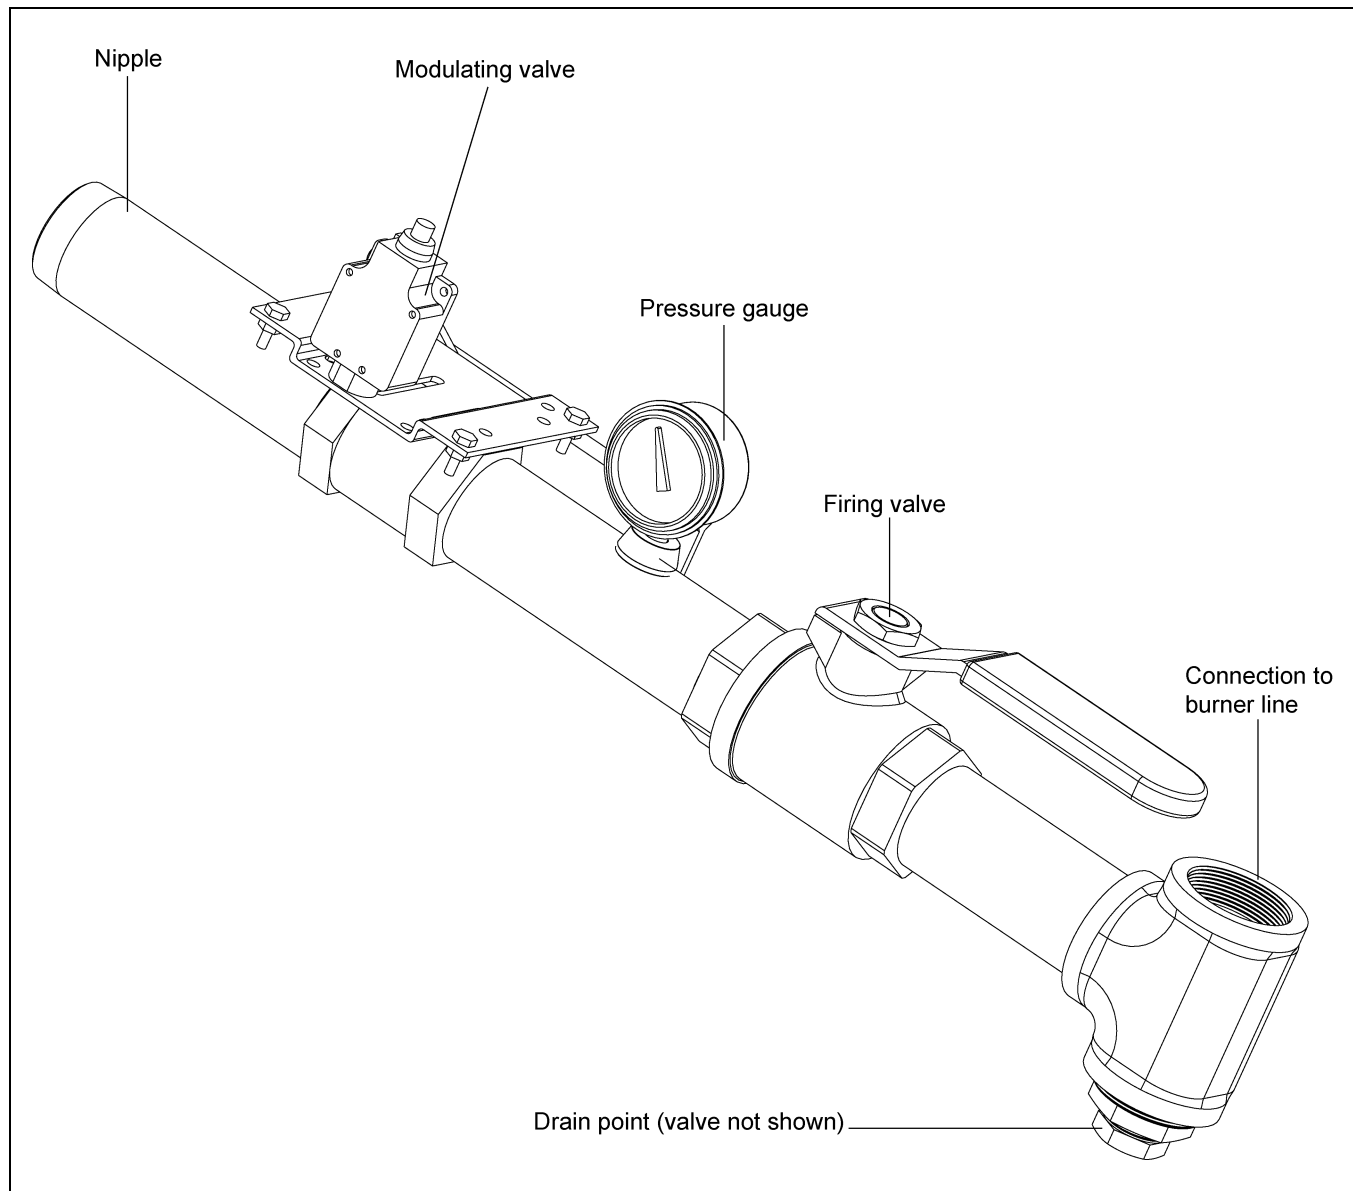

Figure 3F
6. Burner pressure with modulating valve at maximum read at burner pressure gauge. (See Figure 3F on Page 18.)
7. Burner pressure with modulating valve at minimum read at burner pressure gauge. (See Figure 3F on Page 18.)
- b. Close firing valve. (See Figure 3F on Page 18.)
- f. Read pressure at burner gauge. (See Figure 3F on Page 18.)
- d. Read pressure at burner gauge. (See Figure 3F on Page 18.)